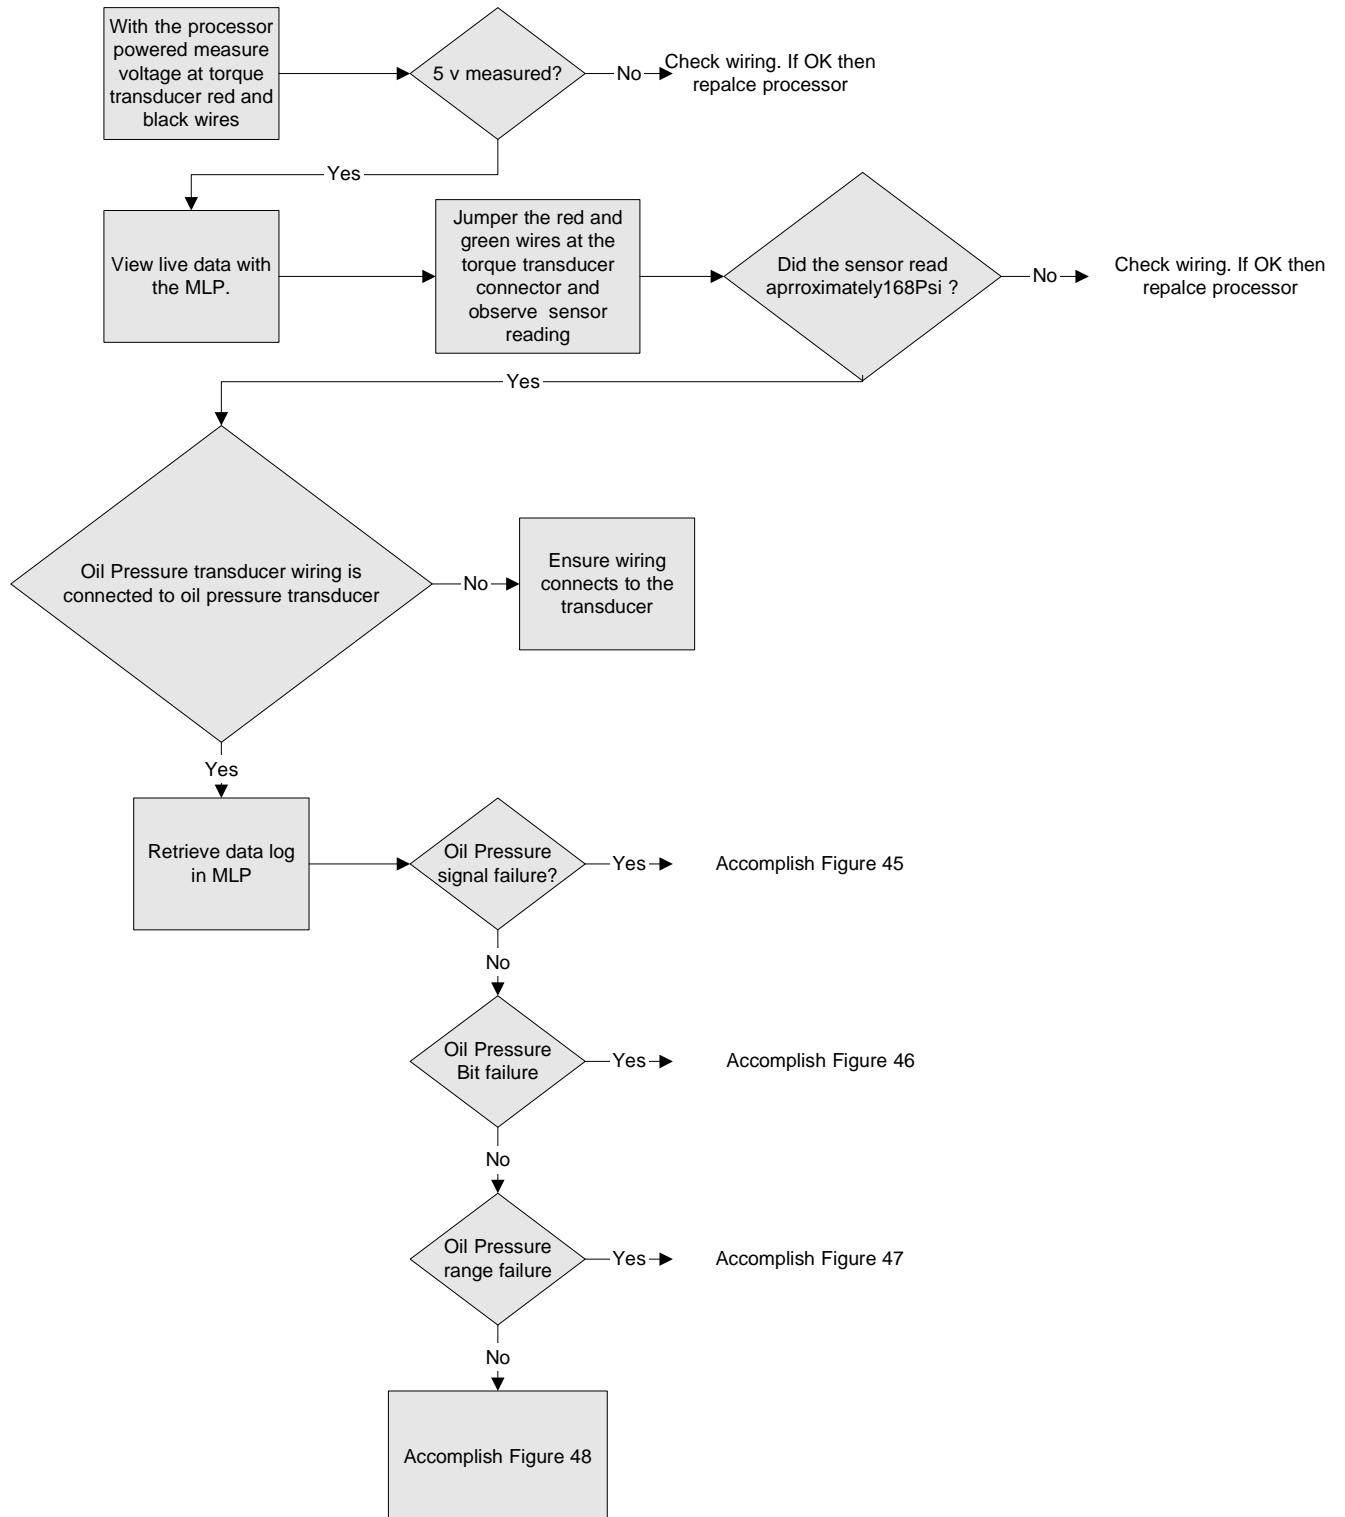

Figure 44: Oil Pressure Transducer Functional Test Diagram
- a. Figure 44 Transducer Functional Test – refer to Figure 44